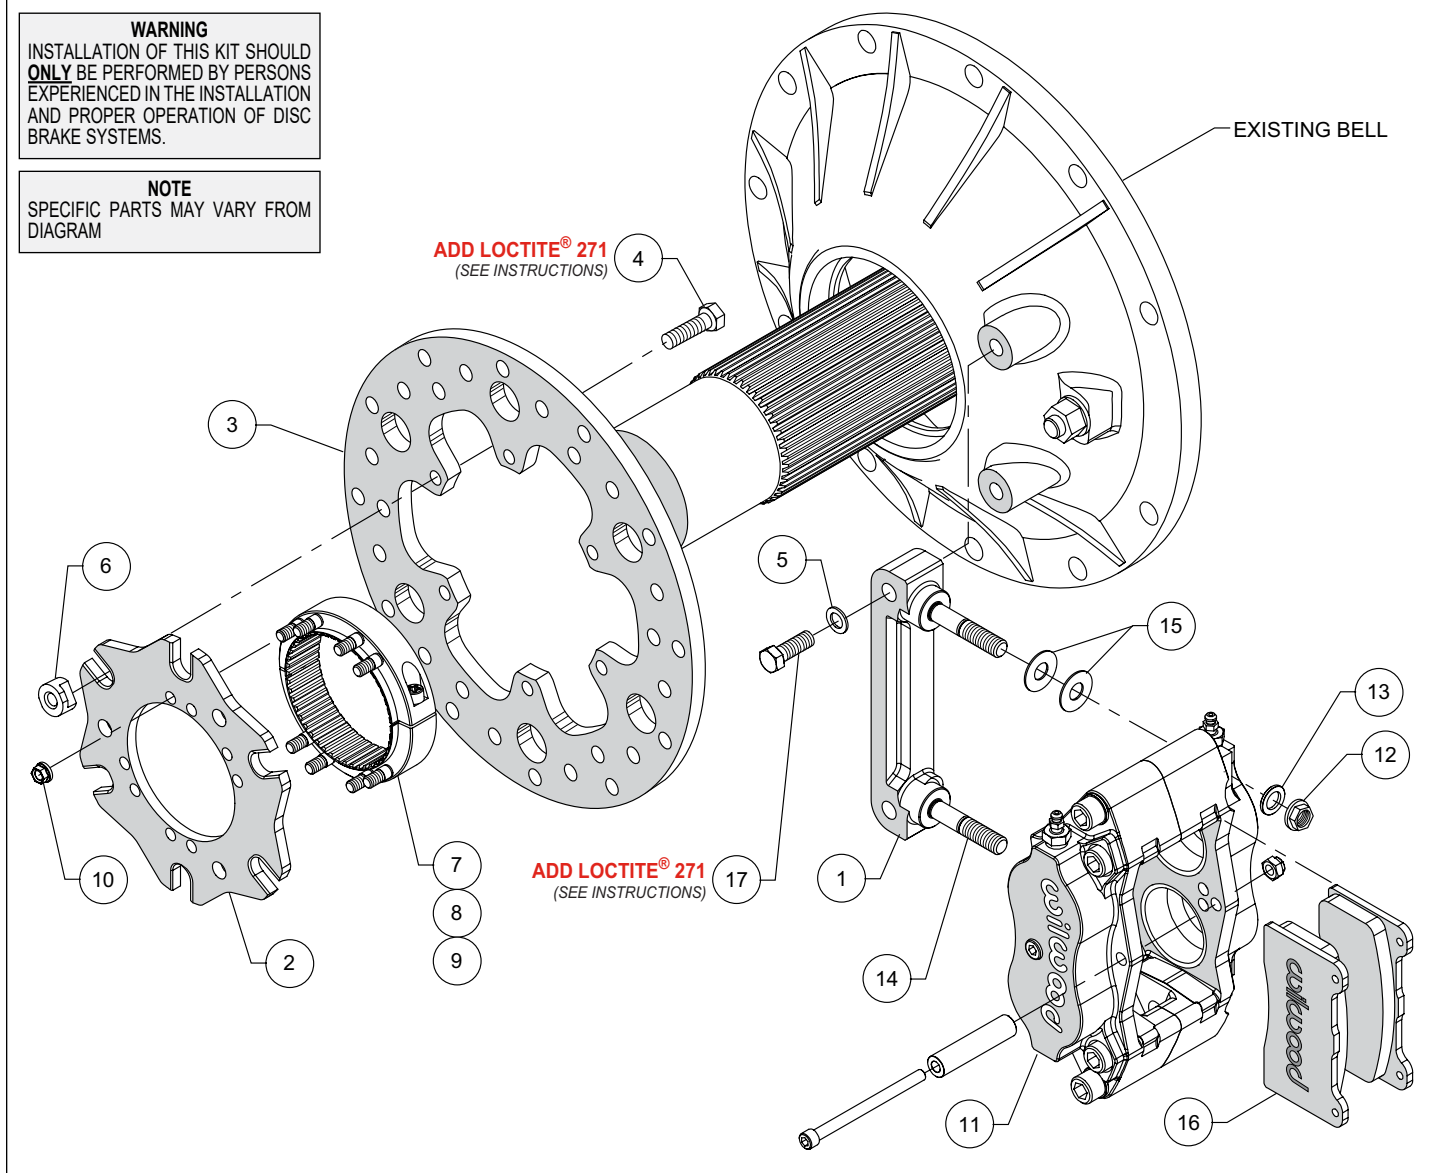

Figure 1. Typical Installation Configuration
NOTE: Numbers in parenthesis refer to the parts list and Figure 1 on the preceding pages.
- Orient the bracket (1) as shown in Figure 1, and install using bolts (17), and washers (5). Temporarily tighten the mounting bolts. **NOTE:** The bracket must fit squarely against the mount bosses on the bell. Inspect for interference from casting irregularities, machining ridges, burrs, etc. Remove the bracket mounting bolts one at a time, apply red Loctite® 271 to the threads, and torque to 35 ft-lb.
- Orient the rotor adapter (2) and the rotor (3), as shown in Figure 1, and attach using bolts (4), and t-nuts (6), Figure 1. Apply red Loctite® 271 to the threads before installing. Finger tighten. After all t-nuts have been installed, torque bolts, using a criss-cross pattern, to 220 **in-lb**. Please refer to Wilwood's data sheet DS-669 (available at www.wilwood.com/Pdf/DataSheets/ds669.pdf) for complete t-nut bolt kit installation instructions.
- Orient the axle clamp assembly (7, 8 and 9, pre-assembled) as shown in Figure 1 and install onto the rotor adapter (2) using nuts (10). Tighten nuts part way while still allowing clamp-to-rotor movement. The nuts will be torqued later, after aligning the rotor. **NOTE:** *The axle clamp should be positioned inside of the rotor as shown in Figure 1, not offset, or outside of the rotor adapter.*
- Initially place two .030" thick shims (15) on each stud as shown in Figure 1. Mount the caliper (11) onto the bracket (1) using lock nuts (12) and washers (13), Figure 1. Temporarily tighten the lock nuts and view the rotor through the top opening of the caliper. The rotor should be centered in the caliper. If not, slide the rotor/adaptor assembly on the axle until the rotor is centered in the caliper. Tighten the clamp bolts (9) first, locking the clamp to the axle. Torque nuts (10) to 140 in-lb.
- Remove the caliper center bridge pad retainer bolt, nut, and tube from the caliper. Insert the brake pads (16) into the caliper, with the friction material facing the rotor. Check that the top of the brake pad is flush with the outside diameter of the rotor. If not, adjust by adding or subtracting shims (15) between the caliper and the bracket. After the caliper pad height is set, torque the caliper lock nuts (12) to 30 ft-lb. Secure the brake pads in place with the center bridge pad retainer tube, bolt, and locknut. The locknut should be snug without play in the bolt or tube. Be cautious not to over tighten.